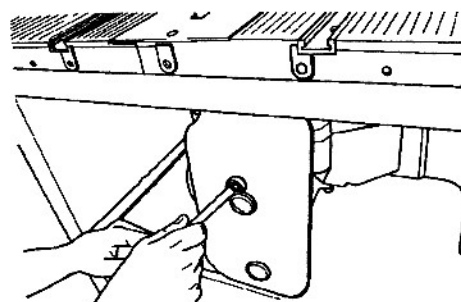

Fig. B-11
b. Use a 7/16" wrench to loosen the bumper's outer nut, as shown in Fig. B-11.